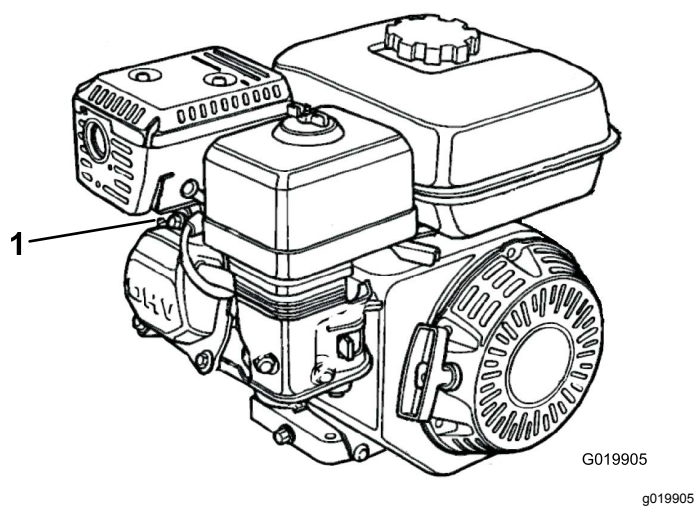

Figure 33
1. Disconnect the spark-plug wire from the spark plug (Figure 33).